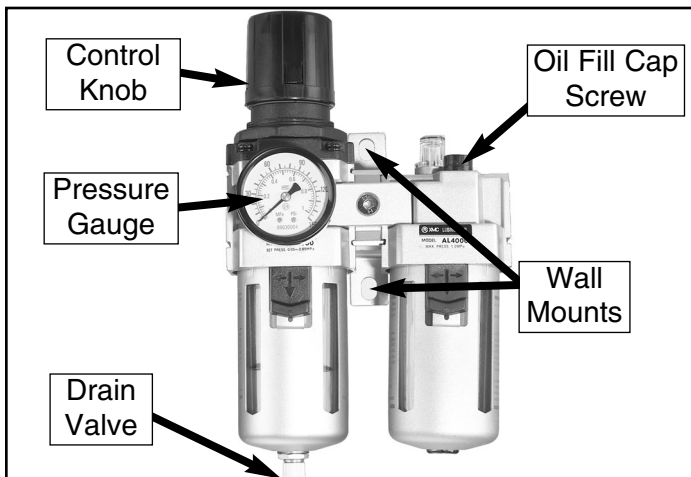

Figure 1. Identification and mounting orientation.
3. Mount the Model H3259 (in the upright position shown in **Figure 1**) on a wall close to the area of air tool operation, using the wall mount guide holes. You can also connect it directly onto the compressor shut off valve. Note—Place the Model H3259 away from direct sun or hazardous materials.
2. Never let the water collect past the maximum drainage line. Drain out the water by opening the drain valve located at the bottom of the filter housing (**Figure 1**).